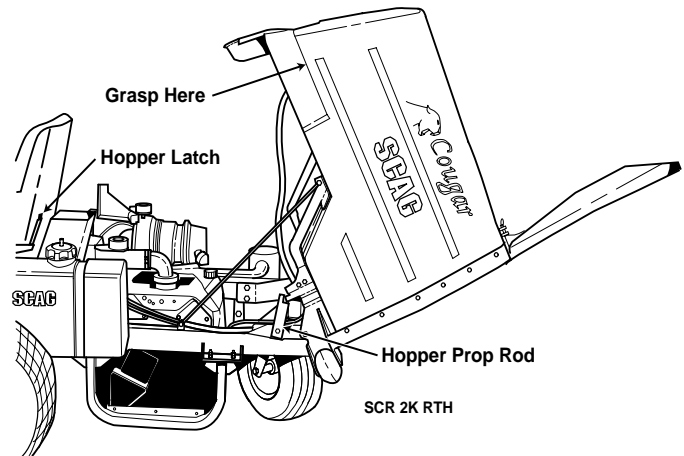

Figure 4-11 Raising The Hopper
- C. Stand off to side of the hopper. Unhook the hopper latch and raise the hopper by placing a hand in the hand hole at either bottom front side of the hopper (Figure 4-11) and then carefully lift the hopper until it is in its upright position. When service is needed under the hopper, rotate the hopper prop rod upward until it contacts the hopper frame. This will prevent the hopper from moving until the service is complete.